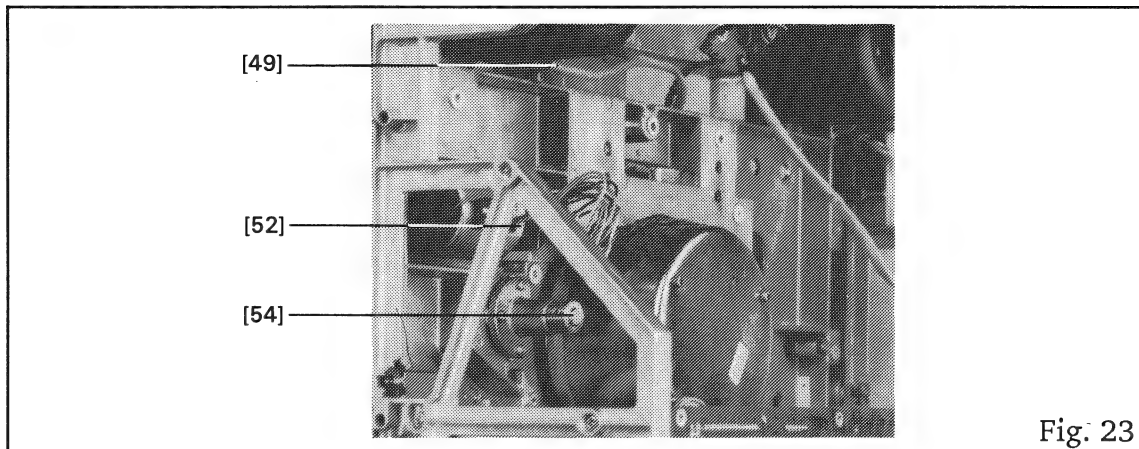

Fig. 23
- Unfasten 1 screw of the motor cable holder [49] (Fig. 23).